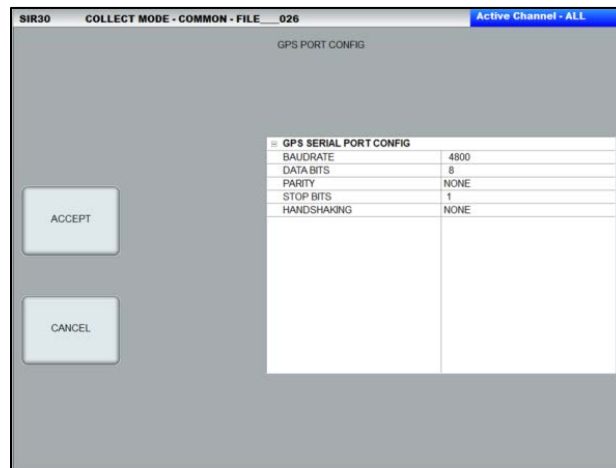

Figure 149: GPS Configuration menu.
- 2 The five options shown in Figure 149 all have pull-down menus. Change these setting to match the settings on your GPS.